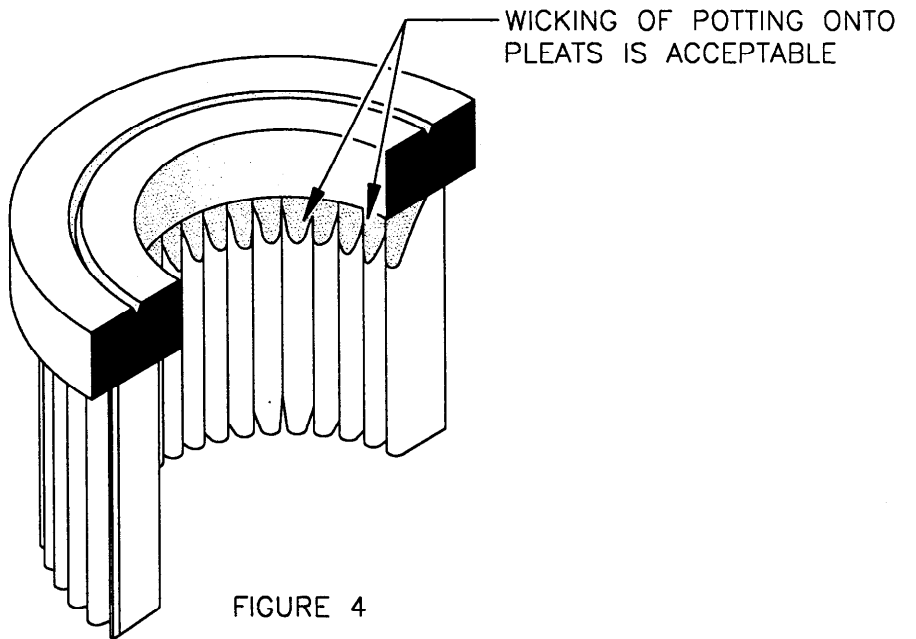

FIGURE 4
- 6) Thoroughly inspect all internal surfaces of the element for any loose particles. Remove any remaining loose particles using any combination of the above steps. Note: The wicking of black potting material onto pleats of paper filter is acceptable (Figure 4).